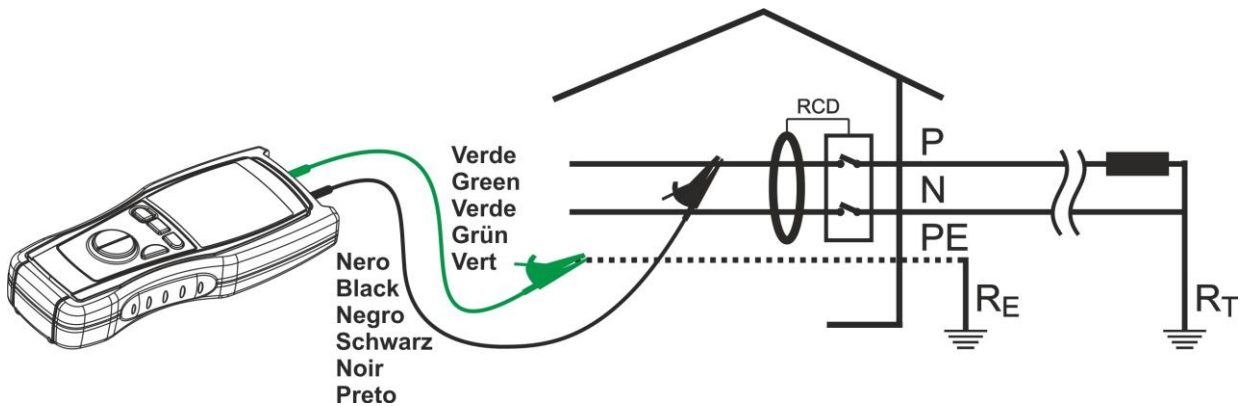

Fig. 14: Connection of the instrument's terminals during AUTO test
5. Connect the green cable to the protective conductor (earth) and the black cable to the phase conductor (Fig. 14) or insert the Shuko cable in a power socket